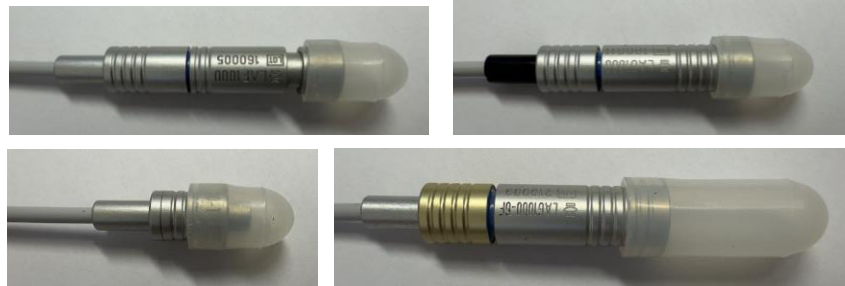

Figure 10 A) LAF1000 with LLZ10-04, B) LAG1000 with LLZ10-04, C) LAF1000-T with LLZ10-04, D) LAG1000-6F with LLZ10-05
**Storage** Store the Transfer Tubes and Connector in a clean, dry environment (relative humidity  $\leq 85\%$ ). Recommended optimal storage conditions are  $25^{\circ}\text{C} \pm 10^{\circ}\text{C}$ . It is important that no chemicals are in close proximity to the storage location. Use and place Storage Caps (LLZ10-04 & LLZ10-05) on coupling part (applicator side only) to prevent entering of any dirt to transfer tubes during storage. Please note that sliding the Storage Caps on coupling part up to 5mm would be enough (See Figure 10).